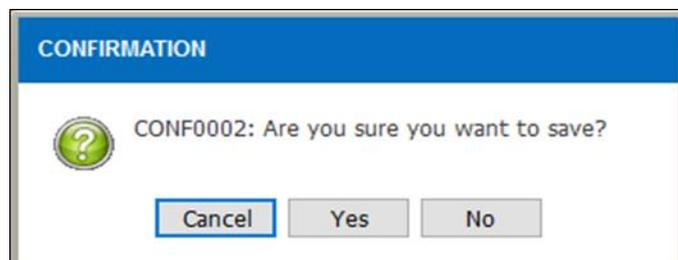

Figure 3.6-8 Save Record Alert Message
- After saving record, alert message will be displayed as per Figure 3.6-8 & Figure 3.6-9